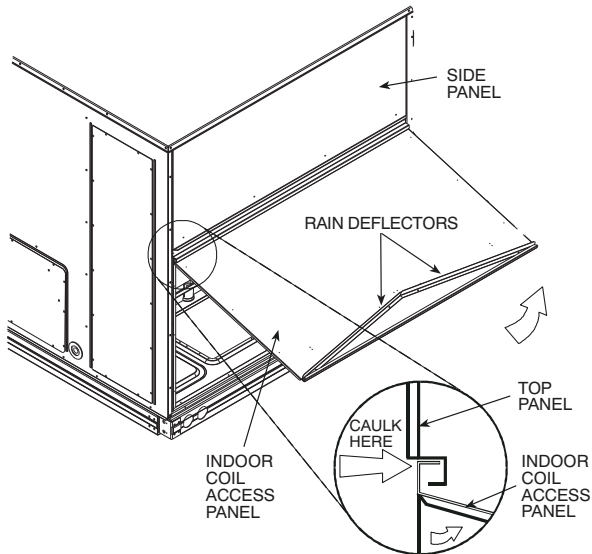

Fig. 15 — Indoor Coil Access Panel Relocation
1. The indoor coil access panel will be used as the top of the hood. If the panel is still attached to the unit, remove the screws along the sides and bottom of the panel. See Fig. 15.
7. Install the two rain deflectors on the edge of the hood top as shown in Fig. 15.
8. Caulk the ends of the joint between the unit top panel and the hood top as shown in Fig. 15.